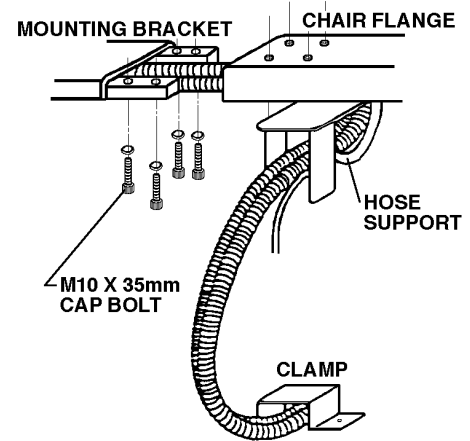

Fig.4-1 Mounting Cuspidor Unit
1. Mounting the Cuspidor Unit (Fig.4-1)